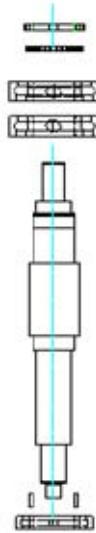

Figure 6-7: assembling and disassembling of bearings on shaft
6. Tight them with lock washer and bearing nut (fig 6.7)